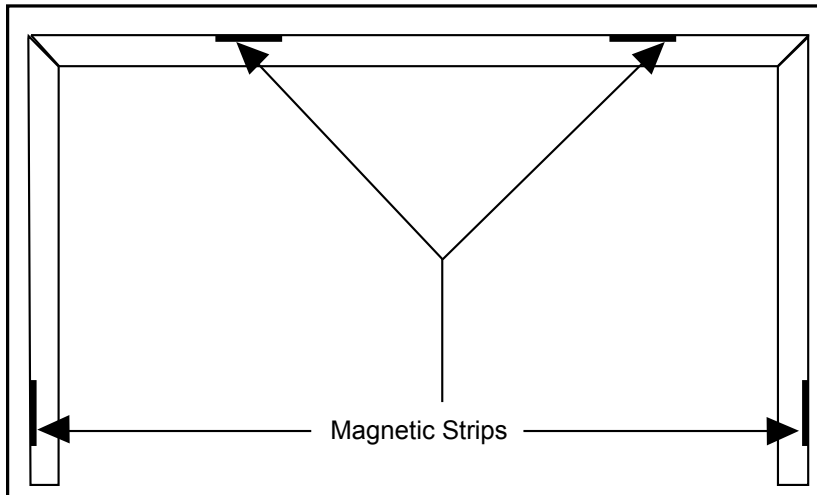

Figure 38: Magnet placement on trim.
2. Remove the backing off the magnets and stick them inside the trim pieces as shown in Figure 38.